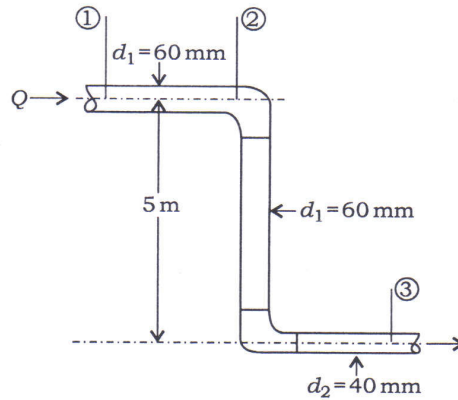

Fig. 5(d)
- (d) For the simple pipe system shown in Fig. 5(d) below, the pressures measured are $p_1 = 19.58$ kPa, $p_2 = 14.685$ kPa and $p_3 = 9.79$ kPa when the discharge is 11 L/s. Determine the head loss (i) between 1 and 2, and (ii) between 1 and 3. Take $\gamma = 9.79$ N/m², $g = 9.81$ m/s² :